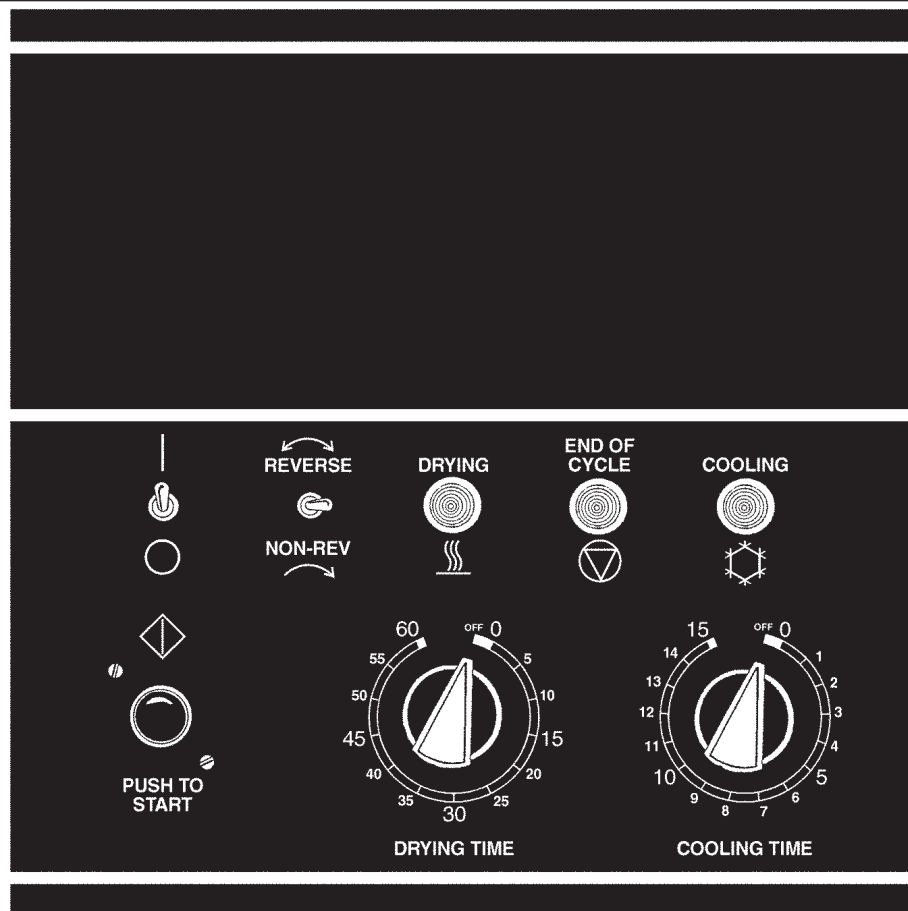

Fig. 1
2. Turn the 60-minute drying timer to the desired drying time. The drying cycle light will be on and indicate the drying. The light shuts off when drying time is complete. (figure 1 on page 26.)
3. Turn the 15-minute cooling cycle timer to the desired cool down time. (**Note: Dryer will not start unless some cooling time is selected!**). After the drying cycle is completed, then the cooling cycle time will automatically operate. The cooling light will be on and indicate the cooling of the clothes load. The light shuts off when cooling time is completed. (figure 1 on page 26.)
6. Turn switch to “ON” or “I” position. (figure 1 on page 26.)
7. Close the dryer door, but the basket **will not rotate** until the **PUSH-TO-START BUTTON** is pressed. Press in the **PUSH-TO-START BUTTON** (approximately 2 seconds) until the dryer starts running and then release button. (figure 1 on page 26.)
5. **Digital Temperature Read Out** - Use this with your temperature selection. Note what temperature is too hot or too cold. (See figure 1 on page 23.)
7. Close the dryer door. The basket **will not rotate** until the **PUSH-TO-START BUTTON** is pressed. Press the **PUSH-TO-START BUTTON** until the dryer starts running (approximately 2 seconds) and then release button. (See figure 1 on page 26.)